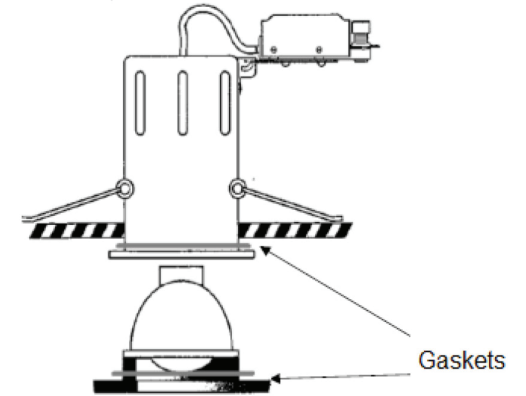

Fig. 6
- Insert the lamp into the body of the downlight and secure by turning the bezel clockwise. If using the F1232C series, please ensure both gaskets are in place. One gasket is in the bezel and the other is around the base of the fitting (see Fig. 6)